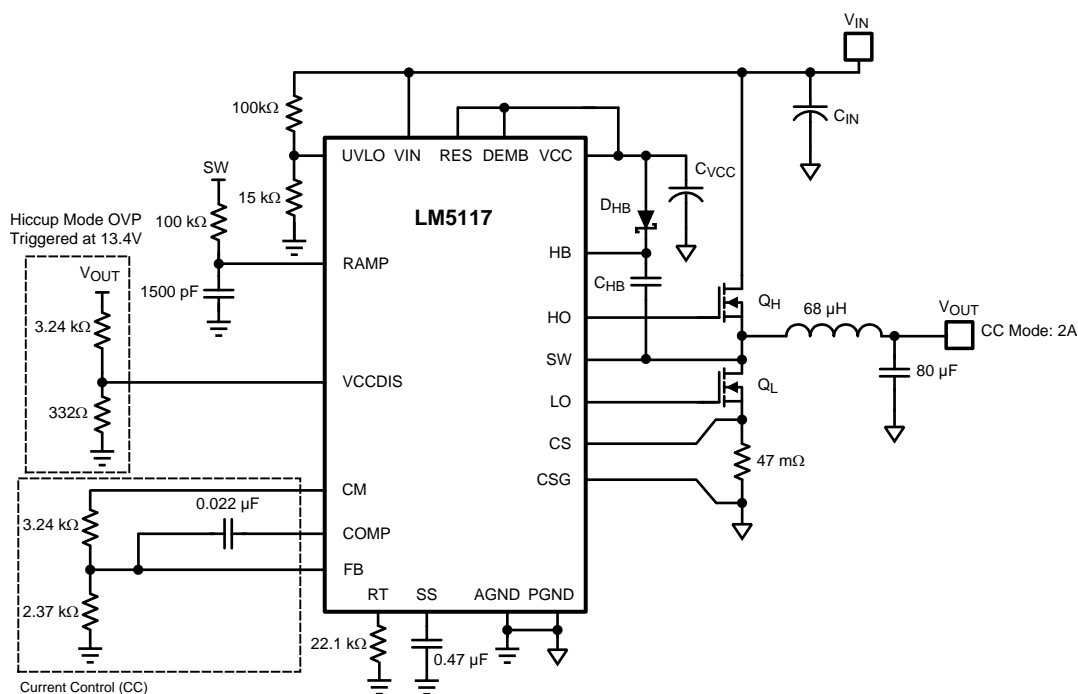

Figure 35. Constant Current Regulator With Hiccup Mode Output OVP
The LM5117 can be configured as a constant current regulator by using the current monitor feature (CM) as the feedback input. A voltage divider at the VCCDIS pin from VOUT to AGND can be used to protect against output over-voltage. When the VCCDIS pin voltage is greater than the VCCDIS threshold, the controller disables the VCC regulator and the VCC pin voltage decays. When the VCC pin voltage is less than the VCC UV threshold, both HO and LO outputs stop switching. Due to the time delay required for VCC to decay below the VCC UV threshold, the over-voltage protection operates in hiccup mode. See Figure 35.